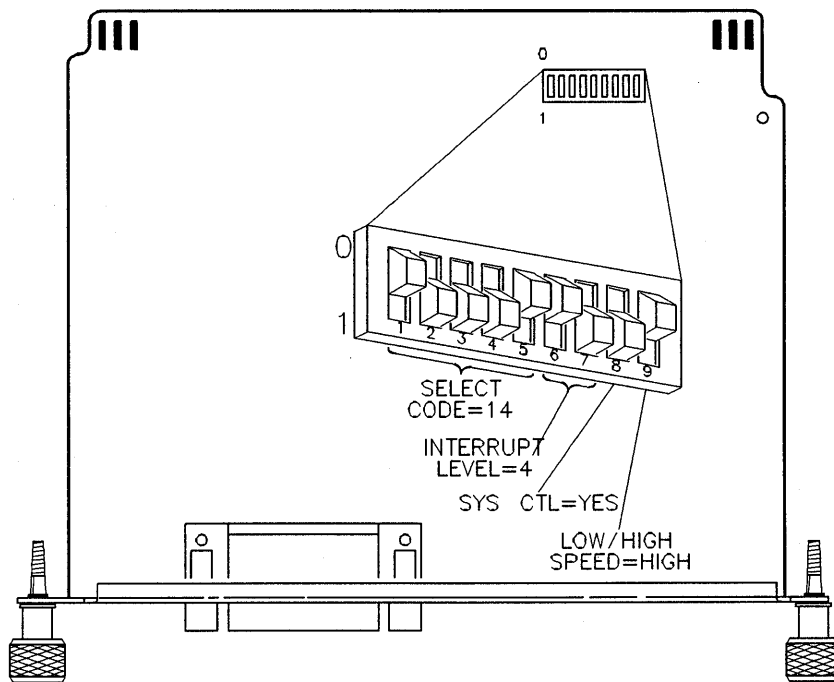

Figure 10-5.
Refer to Figure 10-5 for switch and jumper positions.
2. Find the set of nine switches by referring to Figure 10-5. Switches 1 through 5 in this group determine the select code.
1. Find the set of nine switches by referring to Figure 10-5. Switches 6 and 7 in this group determine the interrupt level.
2. If using HP-UX, set these switches to interrupt level 4 as shown in Figure 10-5. To get interrupt level 4, set the left switch to 0 and the right switch to 1. *Do not set any other interface to interrupt level 4.*
1. Find the set of nine switches be referring to Figure 10-5. Switch 8 in this group determines the system controller setting.
2. If connecting two controllers together via HP-IB, only one of them may be set to system controller. To change this interface to non-system controller, move the system controller switch shown in Figure 10-5 to the 0 position (the opposite of that shown).
SKIP? The Low/High Speed switch is preset to 0, "high speed," as shown in Figure 10-5. This setting is appropriate for most applications. If you want to change this setting, continue with this section.
1. Find the set of nine switches by referring to Figure 10-5. Switch 9 in this group is the Low/High Speed switch.
- To set this switch to "low speed," set switch 9 to 1, which is opposite of that shown in Figure 10-5.
- To set this switch to "high speed," set switch 9 to 0 as shown in Figure 10-5.